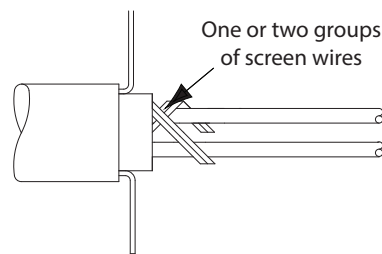

Fig. 2
- 2.3 Unravel one or two groups of wires from the screen wires, then remove the remainder of the screen wires (Fig. 2).